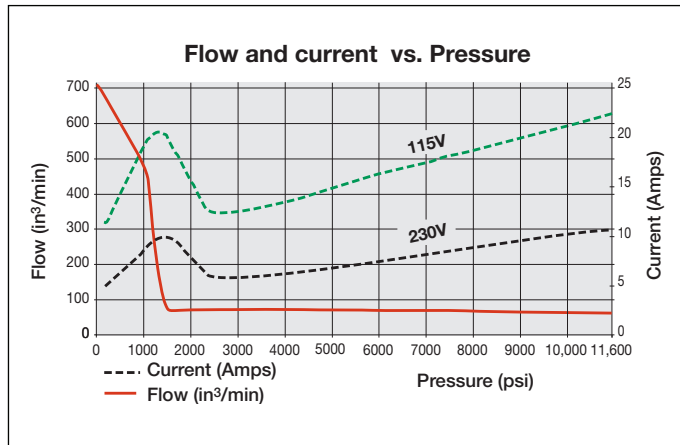

Figure 1, Flow Chart
#### 3.2 Flow Chart (see Figure 1):
\*Actual power consumption depends on the application. See Figure 1.
1. The disconnect and line circuit protection to be provided by customer. Line circuit protection to be 115% of motor full load current at maximum pressure of application (see Figure 1).